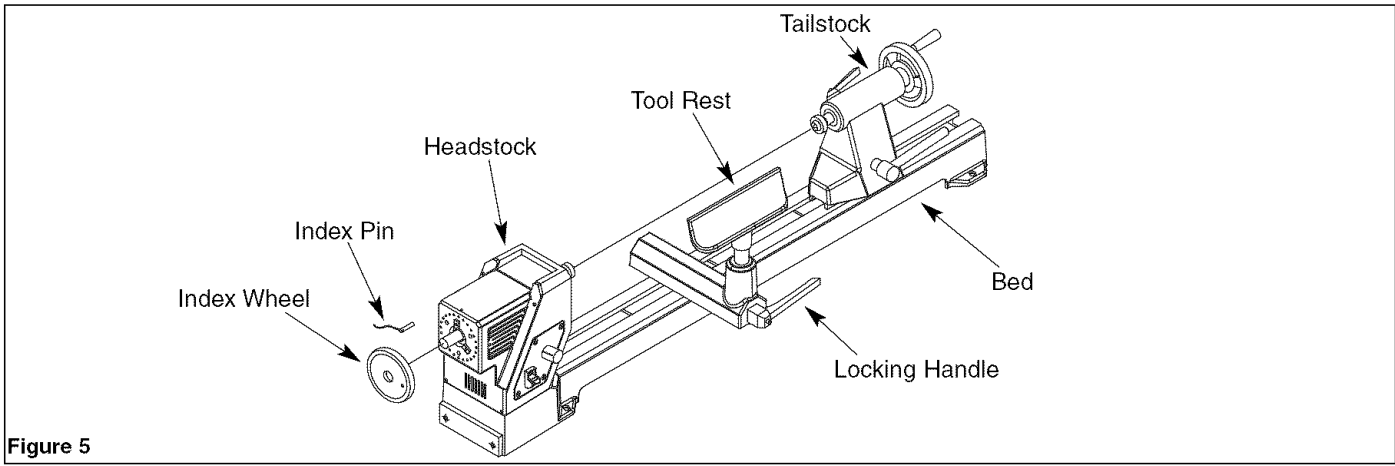

Figure 5
- When the wood lathe is ready for use, it should appear as it does in Figure 5.